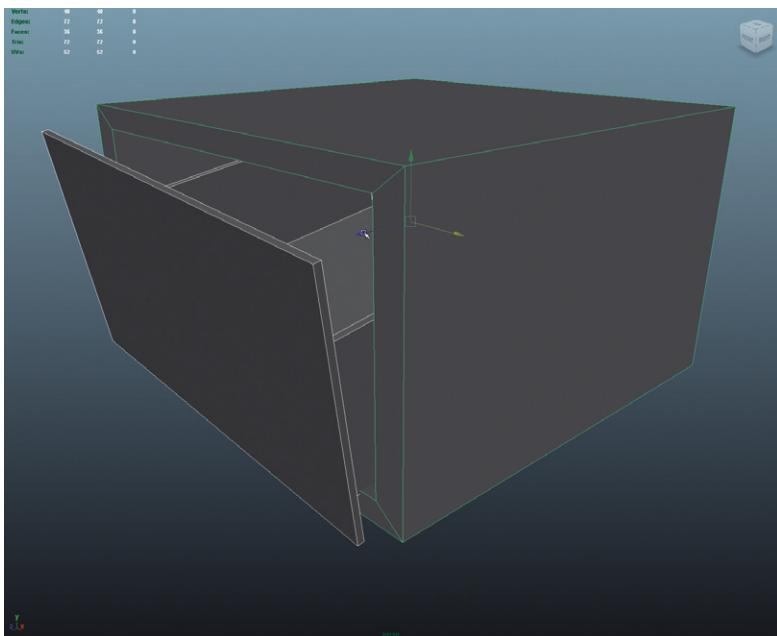

FIG 3.49 Drawer compartment and drawer.
Step 6: Move the drawer into place. The key here is to make the drawer offset – not perfect (Fig. 3.49).